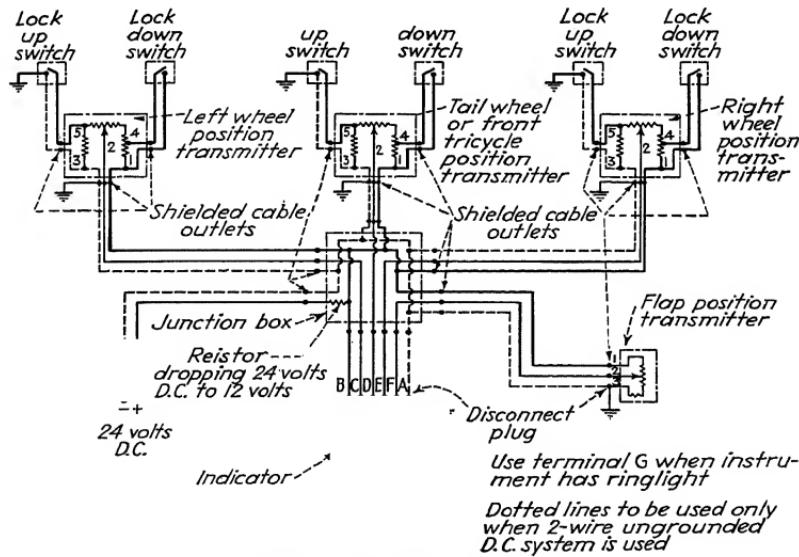
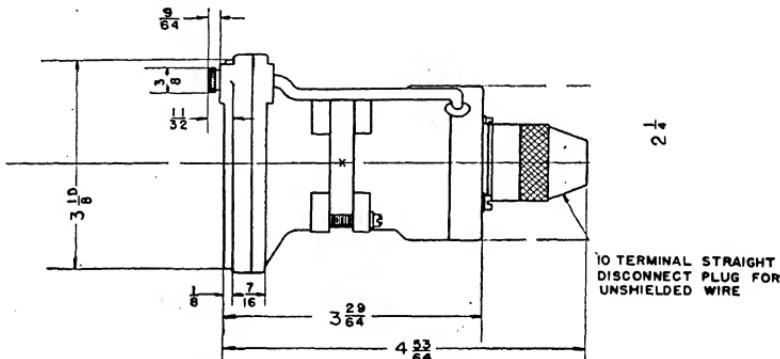

FIG. 58.—Wiring diagram of Autosyn.
FIG. 59.—Installation dimensions of Autosyn indicator.
**Installation.**—A wiring diagram is shown in Fig. 58 for a grounded d.c. system. The necessary connections for an ungrounded system are shown in dotted lines. The numbers shown on the wiring diagram correspond to the numbers on the terminal blocks and disconnect plug of the system. Installation dimensions of the instrument are shown in Fig. 59.